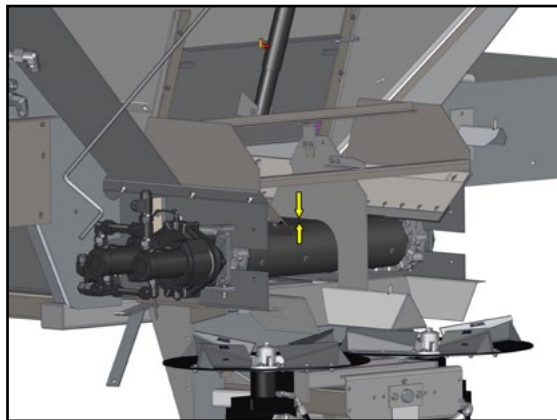

Figure 10
11. Figure 10 - Lastly, ensure that the Hillside Divider panel has proper clearance from the belt. The bottom edge of the divider panel should be approximately 3/8" (1cm) from the rubber belting of a #4 BOC.